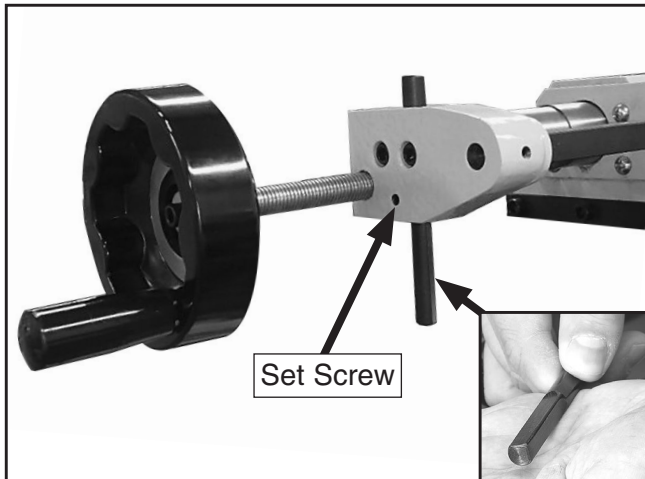

Figure 15. Stylus follower edge.
3. Loosen M5-.8 x 10 set screw, then adjust stylus height until the follower edge is centered on template or profile (see **Figure 15**).